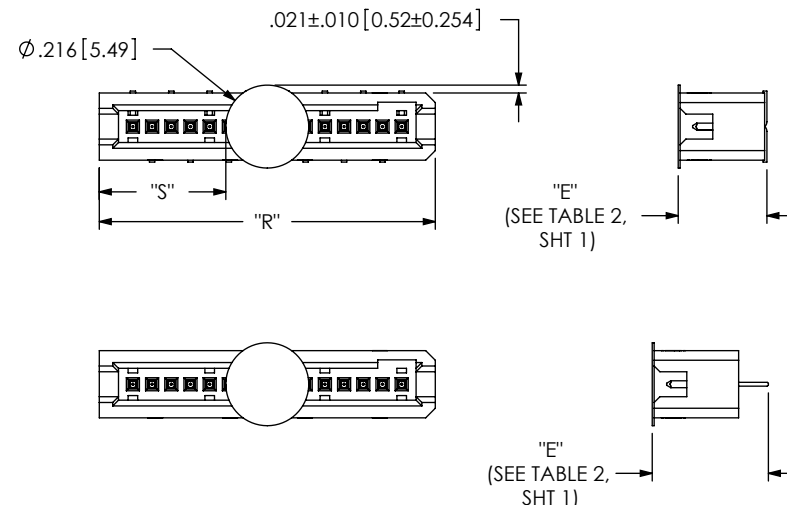

FIG 3
-K: POLYIMIDE FILM (SEE FIG 3, SHEET 2)